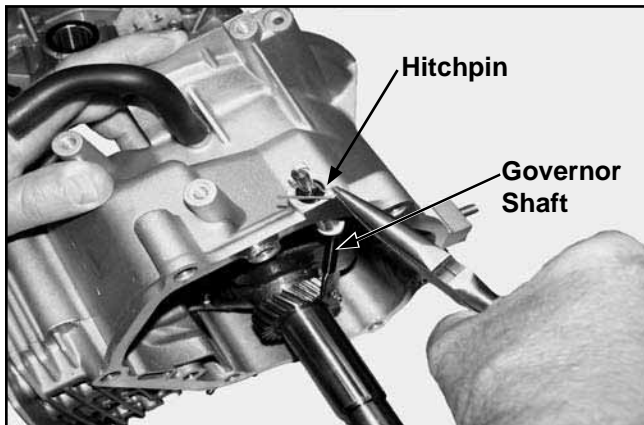

Figure 8-50. Removing Governor Hitchpin, Shaft.
2. Remove the hitchpin securing the governor shaft. See Figure 8-50.